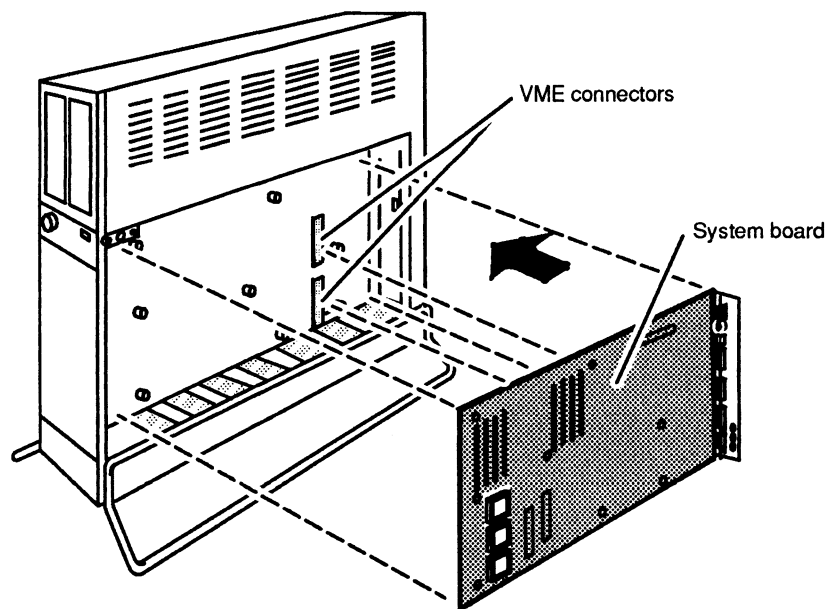

Figure 5-10 Inserting the System Board into the Computer Unit
4. Insert the system board in computer unit, aligning the VME two connectors on the back panel, shown in Figure 5-10, with the two connectors on the back of the system board.